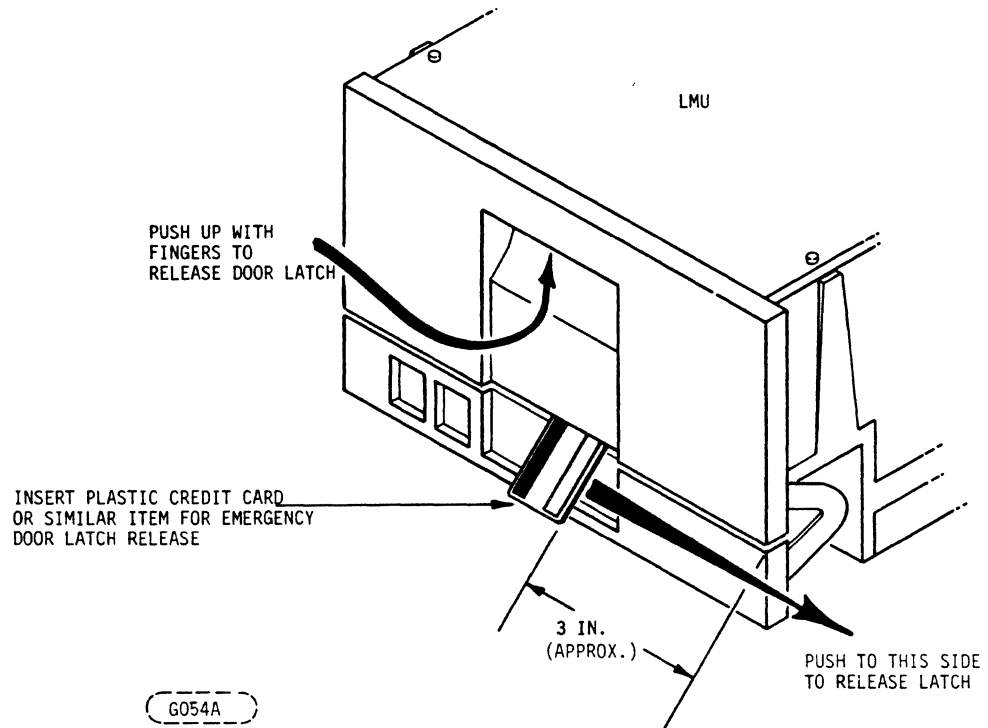

FIGURE 2-4. EMERGENCY/DRIVE FAILURE CARTRIDGE DOOR OPENING PROCEDURE
In case of an emergency need to remove the cartridge, perform the following procedure. (Refer to Figure 2-4):
2. See Figure 2-4. Insert a plastic credit card or similar object into the space between the access door and the lower front panel. Push the small release tab behind the panel (about 3 inches from the right edge) toward the right with the card and hold while pushing up with the fingers on the door latch release. Pull the door open and remove cartridge. Close front door.